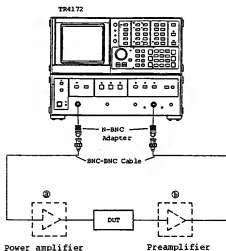

Fig. 5-3 Connecting filter and TR4172 via preamplifier
The preamplifier (option 02) is equivalent to ⑤ in Figure 5-3. If the T.G. output level is too high, it can be attenuated by up to 50 dB at 10 dB steps as follows: